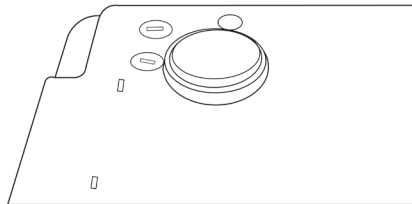

Figure 9-1 Replacing the fuse
Use a cross screwdriver to remove the fuse holder in the direction of the arrow (counterclockwise), and replace the damaged fuse with a primary fuse provided or approved by our company. Screw the fuse holder in the opposite direction to fasten it. The replacement method is shown in Figure 9-1:
- **Press the fuse holder downward and rotate it counterclockwise as shown in Figure 9-1. After removing the damaged fuse replacing a new one, press down the fuse holder and rotate it clockwise.**